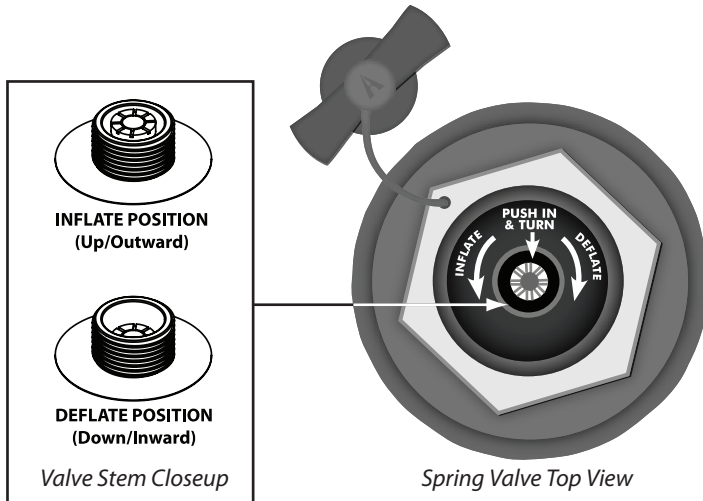

Figure 1. Inflate/Deflate Spring Valve
1. Starting with Main Chamber 1, check to be sure that the valve plunger is UP or in the INFLATE position (See Figure 1 on previous page).
1. Moving to Main Chamber 2 on the inside of kayak, check to be sure that the valve plunger is UP or in the INFLATE position (See Figure 1) and inflate until firm to touch (**2.0 psi ONLY**).
2. Push stems inward and rotate to deflate position (*See Figure 1*).